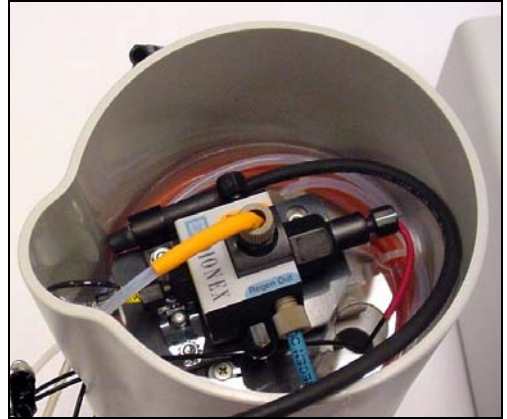

Figure 5-78. CR-TC Installed in Holder
5. Check that none of the lines are caught under the CR-TC and then push the CR-TC onto the metal stud inside the EGC holder. Push down until the CR-TC snaps in place (see Figure 5-78).